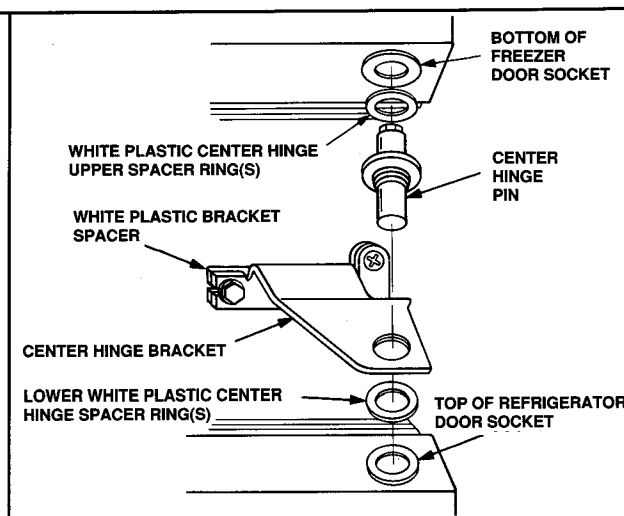

Figure 72
- a. Install all of the plastic center spacer ring(s) in the same position as in Steps 10. See Figure 72.